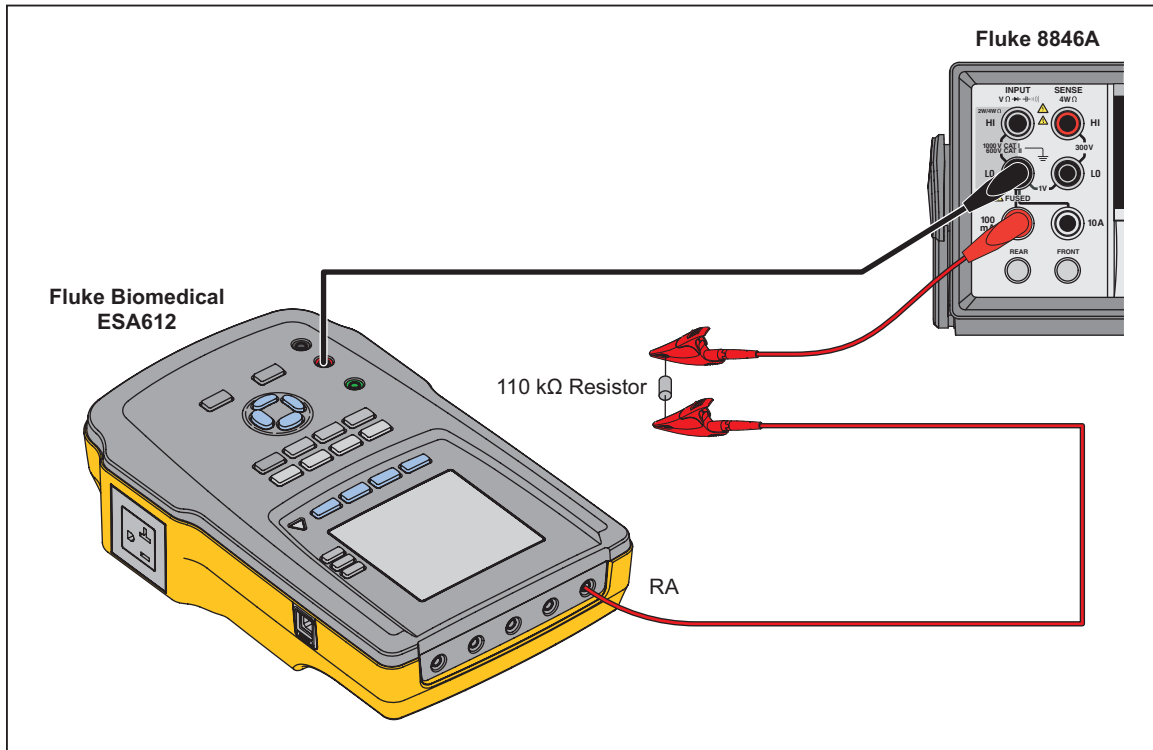

Figure 3-19. Direct Applied Part Verification Red to RA Connections
1. Move the lead connected to the EO ground to the red jack; the other end should be connected to the DMM Input (-). The RA Applied Part should still be connected to one end of the 110-k Ω resistor. See Figure 3-19.